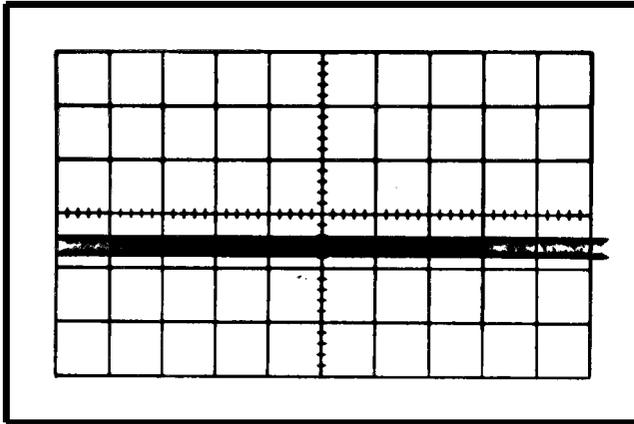

Fig. 6-26. Typical CRT display when checking common-mode rejection ratio.
- e. CHECK-CRT display for 0.4 division deflection, or less (common-mode rejection ratio 20:1 or better; see Fig. 6-26).